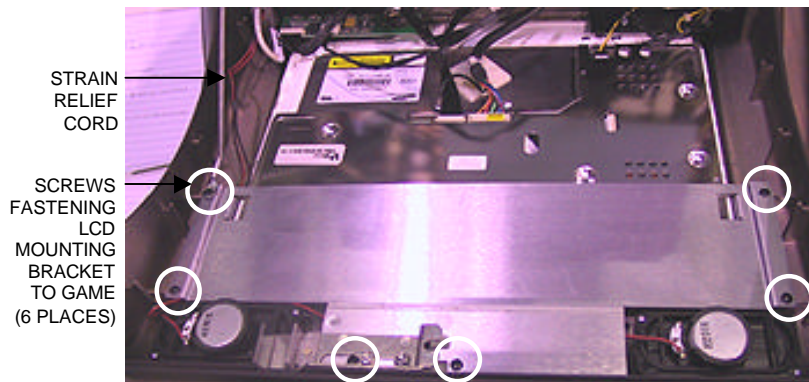

FIGURE 1 - FORCE EVO/EVO WALLETTTE - MONITOR REMOVAL
4. Remove the 6 screws fastening the LCD mounting bracket to the game (one screw also fastens the strain relief cord) and remove the bracket. See Figure 1.